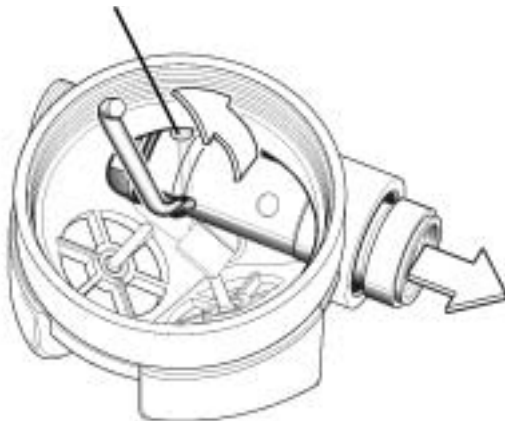

Figure 21 - Removal of lever
11. While holding the box bottom secure, press against the male threaded inlet side of the valve body (23) until the head of the lever retaining pin (6) is visible (see Figure 21). Turn the box bottom over to drop out the pin, and then remove the lever. Inspect the lever and pin for any signs of bending, distortion, or excessive wear of the plating. If any of these conditions are found, discard and do not attempt to reuse.